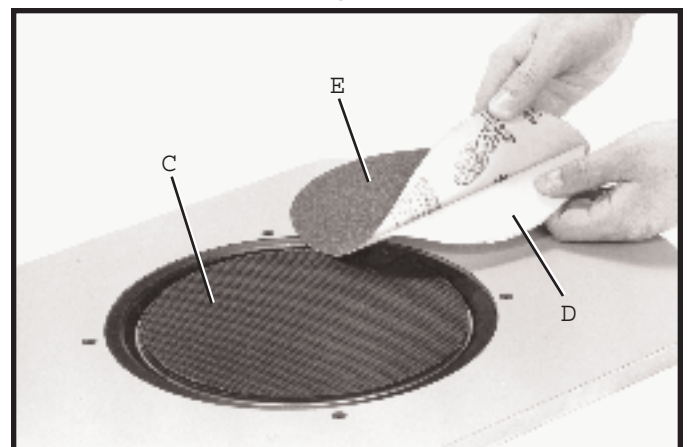

Fig. 24
If you are using an adhesive-backed abrasive disc, remove backing (D) Fig. 24, from abrasive disc (E) and press the disc onto transition pad (C). **NOTE:** If you are changing over from using an adhesive-backed abrasive disc to a hook and loop abrasive disc, refer to section **ASSEMBLING ABRASIVE DISCS TO DISC PLATE** .